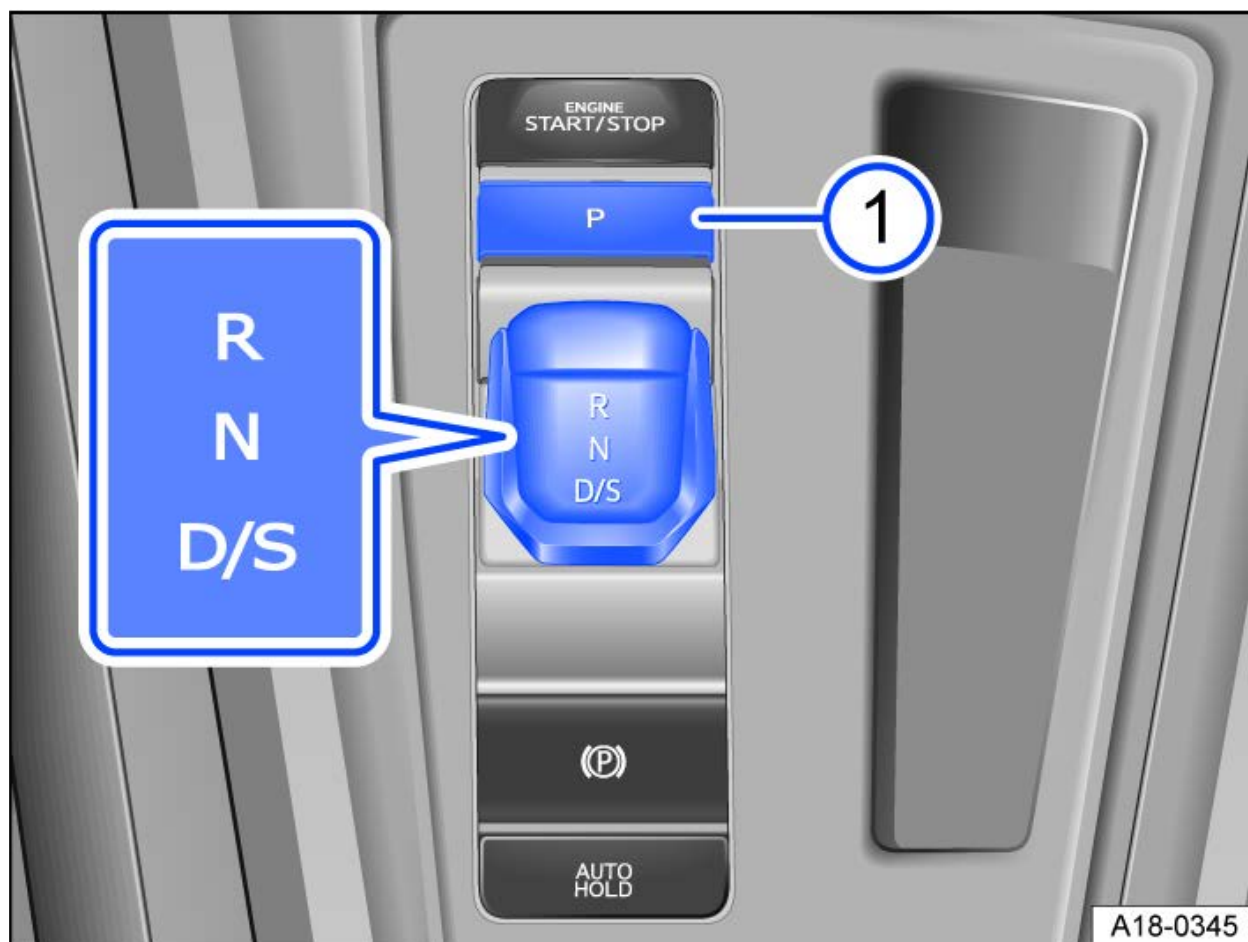

Fig. 1 Automatic gearbox selector lever and parking lock button.
To engage the parking lock, press the **P** button → *fig. 1* (1).